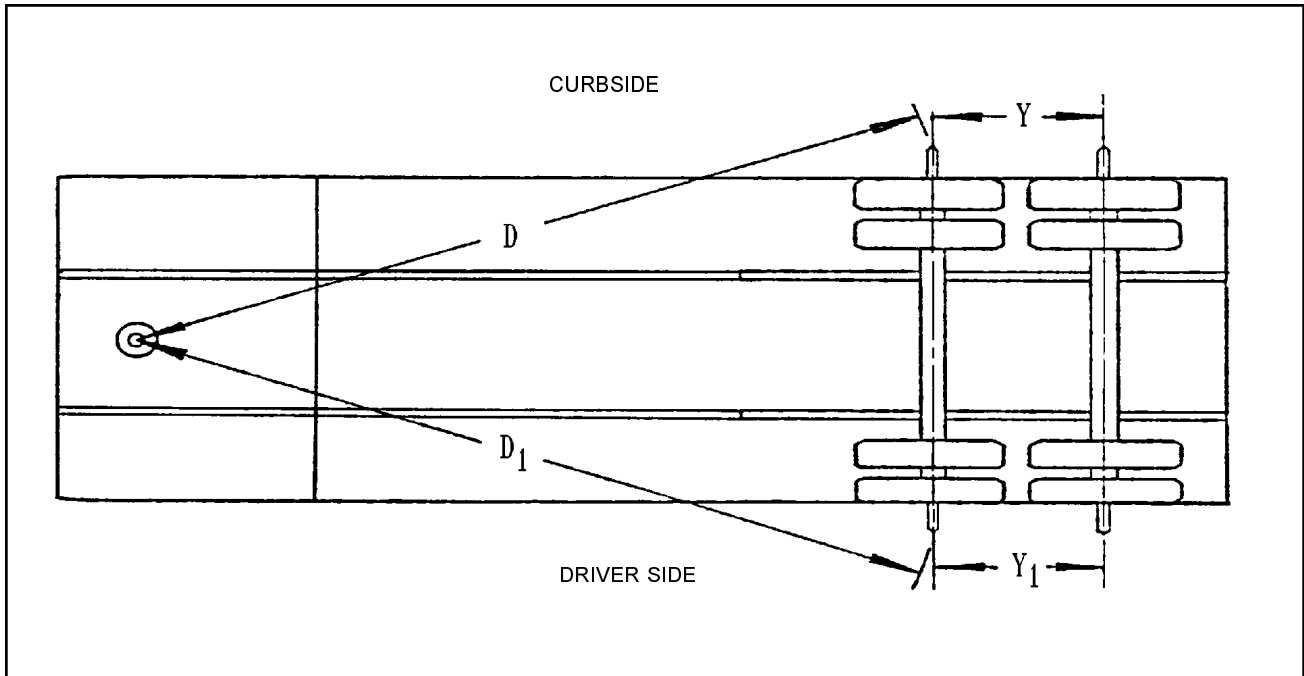

Figure 4-6 Checking Axle Alignment
4. Measure (D) from the plumb bob to the center point on one end of the axle. Record this measurement (**See Figure 4-6**).
5. Measure (D1) to the other end of the axle in the same manner as in **Step 4.** Record this measurement (**See Figure 4-6**).